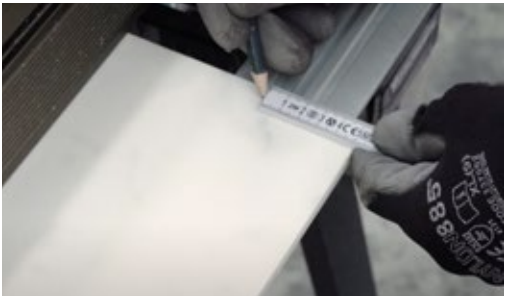

Figure 4
1. Mark the portion to be removed at the ends of the slab (see Figure 4).